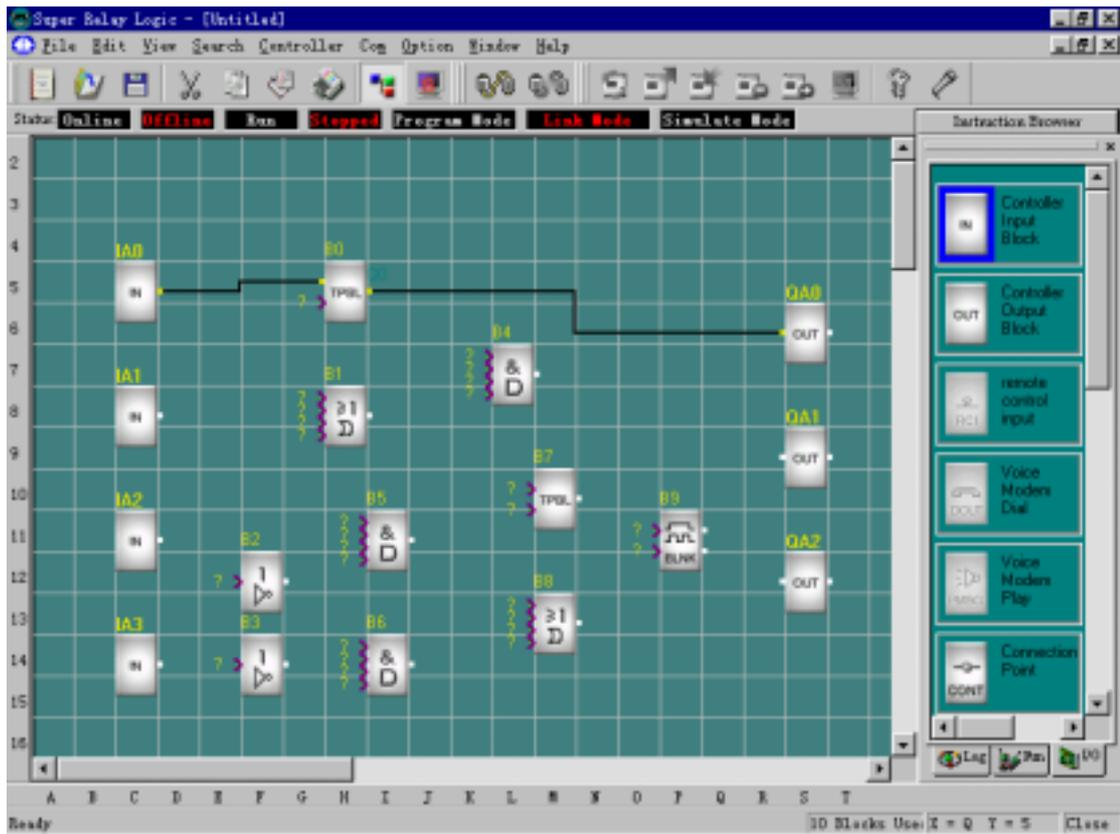

Fig 4.8 Set up Module Link
2. When the mouse be moved to input&output port, the shape of the mouse is "+",this means you can press the left button of the mouse to confirm one dot of the link, at that time press left button of the mouse once and move it to the output port(input port) of the next module., system could set up link automatically, as shown in fig4.8: